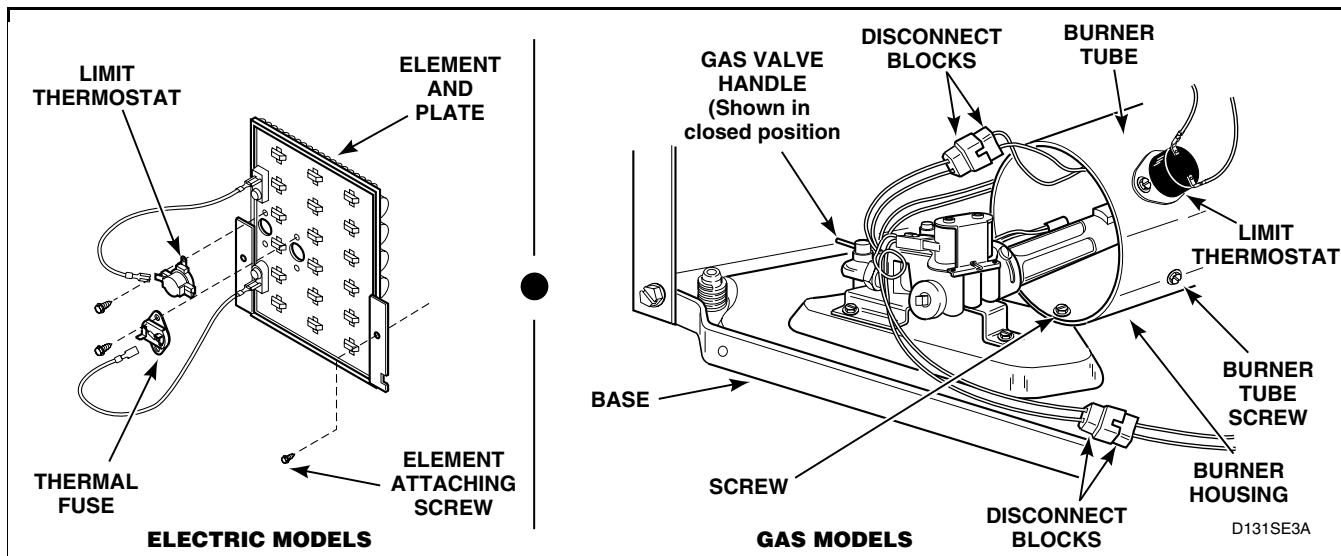
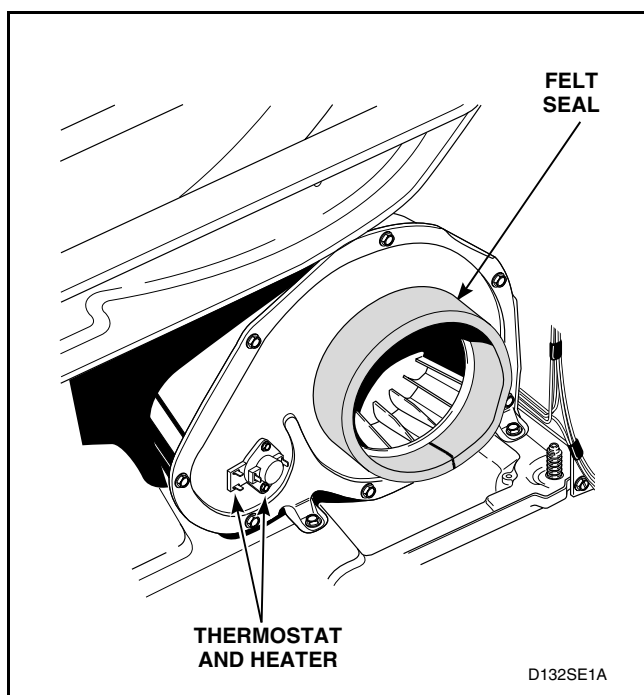
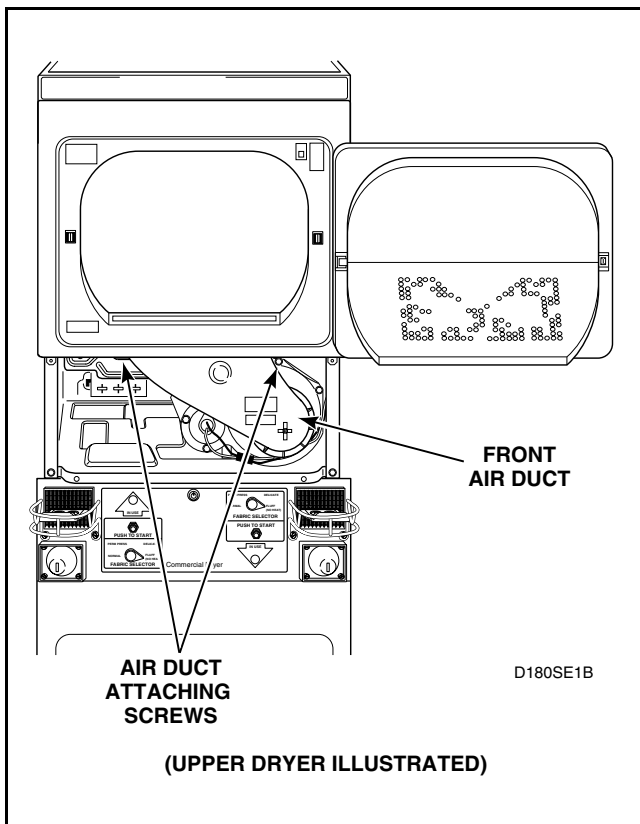

Figure 35
Figure 36
Figure 37
- (2) Gently lower the access panel to disengage guide lugs from bottom edge of front panel.
- (3) Close gas shut-off valve, disconnect igniter wires at disconnect blocks, sensor wires from sensor terminals, and wires from gas valve coils at the quick disconnect blocks. Refer to *Figure 35*.
- c. Disconnect igniter wires at disconnect blocks, sensor wires from sensor terminals, and wires from gas valve coils at quick disconnect blocks. Refer to *Figure 35*.
- d. Remove screw from right side of burner housing holding burner tube in place. Refer to *Figure 35*.
- i. Remove screw holding front of burner housing to dryer base and remove housing out through front of dryer. Refer to *Figure 35*.
- c. Disconnect wires and remove screws holding limit thermostat to burner housing or element plate. Refer to *Figure 35*.
d. Disconnect wires from element and plate. Refer to *Figure 35*.
e. Remove screws holding thermostat and thermal fuse to element plate. Refer to *Figure 35*.
1. Disconnect wires from thermostat. Refer to *Figure 35* or *Figure 36*.
- c. Remove screws holding thermostat to exhaust fan cover. Refer to *Figure 36*.
1. Disconnect wires from heater assembly. Refer to *Figure 35*.
1. Disconnect wires from thermal fuse. Refer to *Figure 35*.
- c. Remove two screws holding element and plate to heater box and pull element down and away from heater box. Refer to *Figure 35*.
- c. Disconnect wires and remove thermostat attaching screws and remove thermostat and heater. Refer to *Figure 36*.
1. Disconnect wires from thermostat heater. Refer to *Figure 36*.
- d. Remove two screws holding air duct to front bulkhead and remove air duct. Refer to *Figure 37*.
**IMPORTANT:** When reassembling, make sure felt seal on exhaust fan cover makes air tight seal on flange of duct. Refer to *Figure 36* and *Figure 37*. If the seal is installed improperly, the airflow through the exhaust system will be restricted which can cause fire and dryer malfunction.
- Remove two screws holding air duct to front bulkhead and remove air duct. Refer to *Figure 37*.
**IMPORTANT:** When reassembling, make sure felt seal on exhaust fan cover, *Figure 36*, makes air tight seal on flange of duct, *Figure 37*. If the seal is installed improperly, the airflow through the exhaust system will be restricted which can cause fire and dryer malfunction.